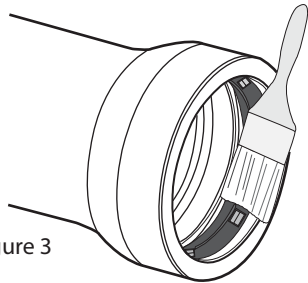

Figure 3
3. Lubricate the spigot end and gasket. (Fig. 3) Apply a thin film of joint lubricant to the outside of the spigot end and to the surface of the gasket that will contact the spigot end. Do **not** lubricate the bell socket of the pipe or the surface of the gasket that contacts the bell socket.